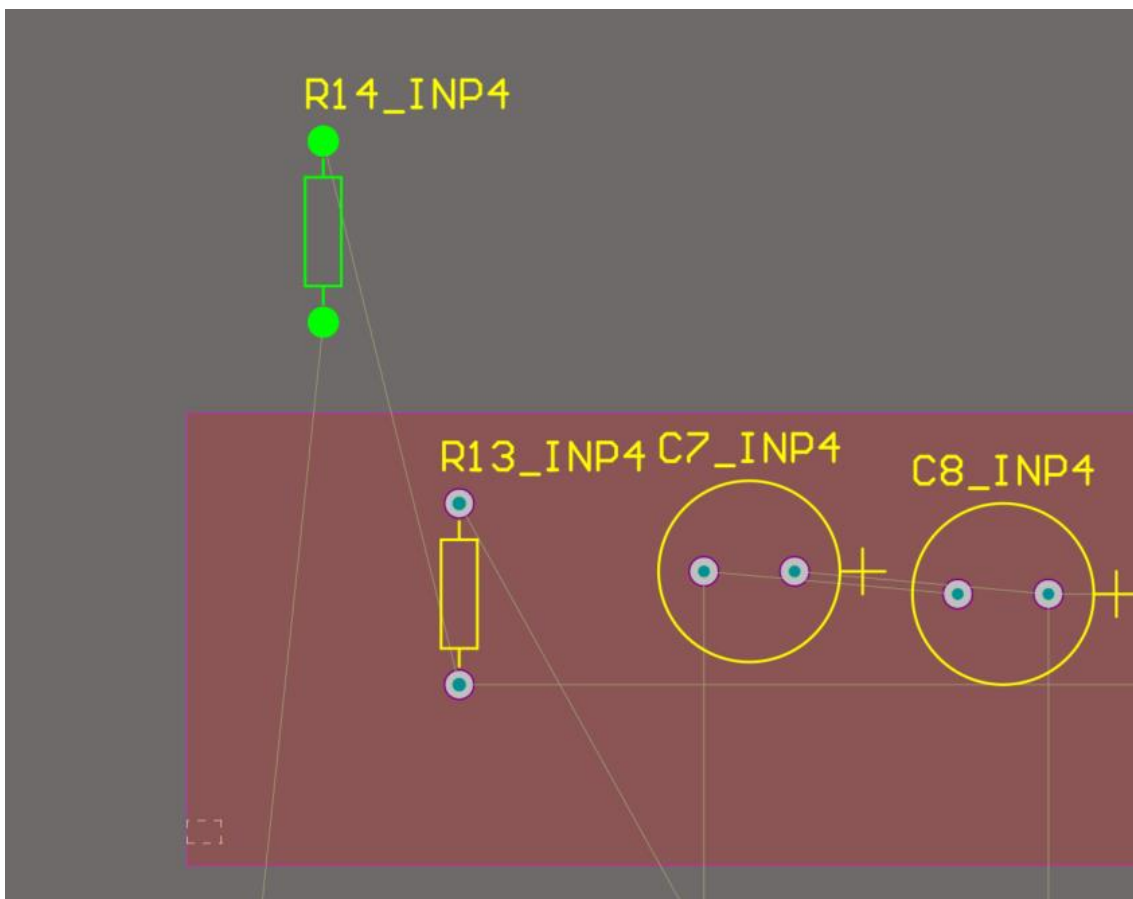

Figure 4. Moving a component outside of its room
12. Drag one of the components out of the room and notice that it turns bright green, indicating that there's a violation, because the component is no longer within the boundary of the room, as shown in Figure 4.